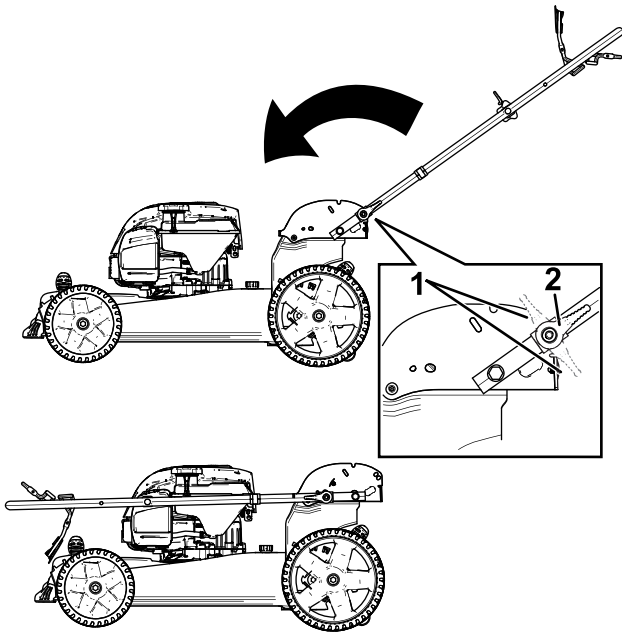

Figure 20
- Disengage the handle locks (Figure 20).
- Fold the handle fully forward (Figure 20).